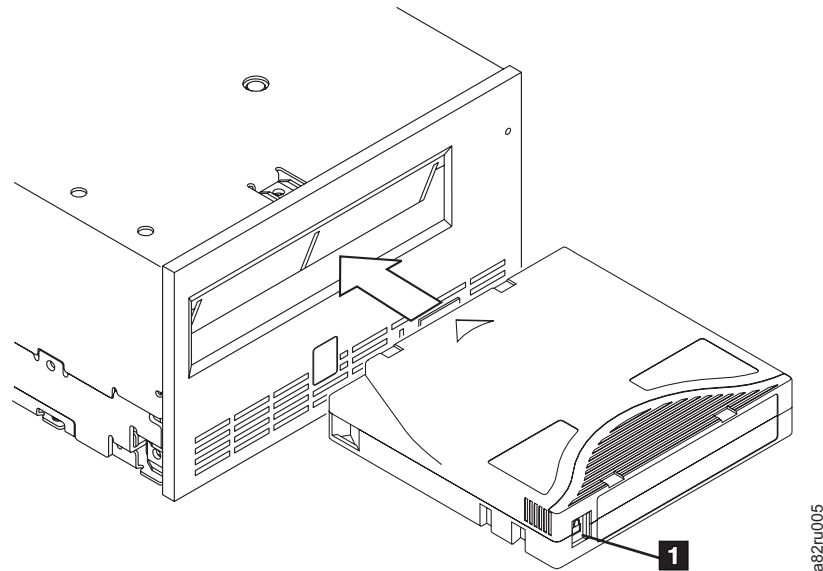

Figure 11. Inserting a cartridge into the drive
3. Grasp the cartridge so that the write-protect switch faces you (see **1** in Figure 11).